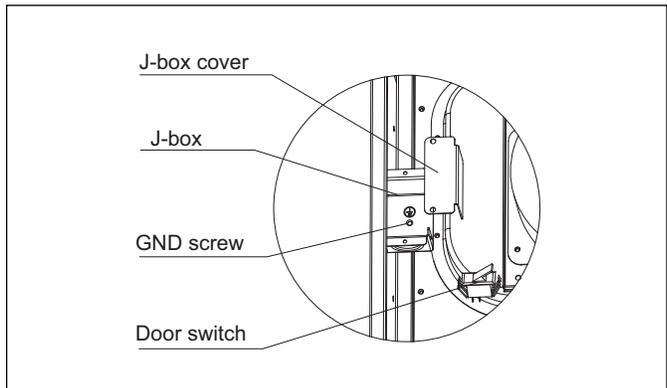

Figure 36 J-Box
1. Remove and save two screws holding J-Box (See Figure 36).
See Fig. 36 on previous page.
4. Remove and save two screws holding J-Box. (See Fig. 36.)